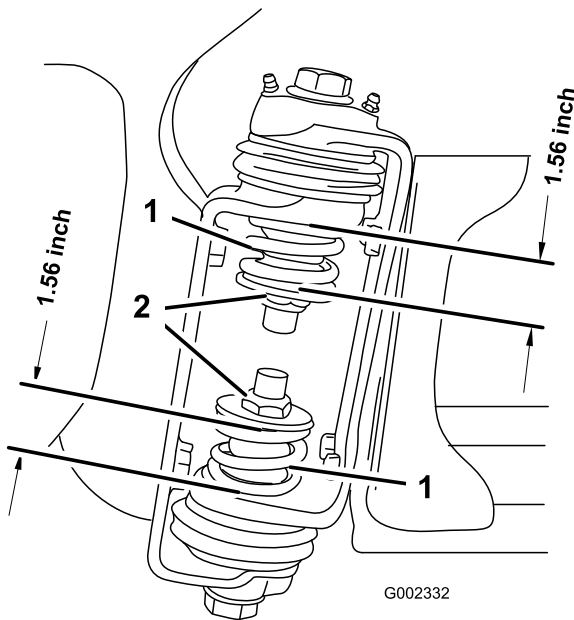

Figure 3
3. At the boom hinge, measure the compression of the upper and lower springs while the booms are in their extended position (Figure 3).